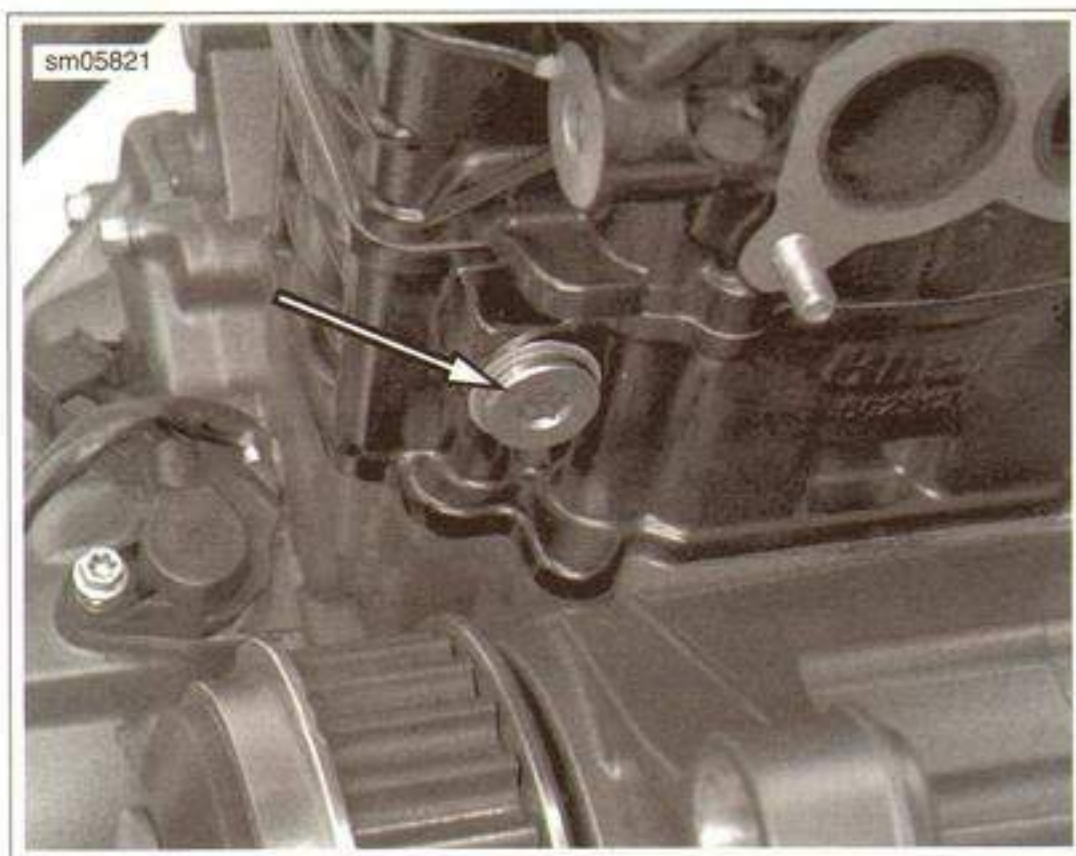

Figure 3-76. Camshaft Chain Tensioner Plug
8. See Figure 3-76. Check sealing ring for damage, replace if necessary. Install camshaft chain tensioner plug. Tighten to 30 Nm (22 ft-lbs).
9. See Figure 3-76. Check sealing ring for damage. Replace if necessary. Install camshaft chain tensioner plug. Tighten to 30 Nm (22 ft-lbs).